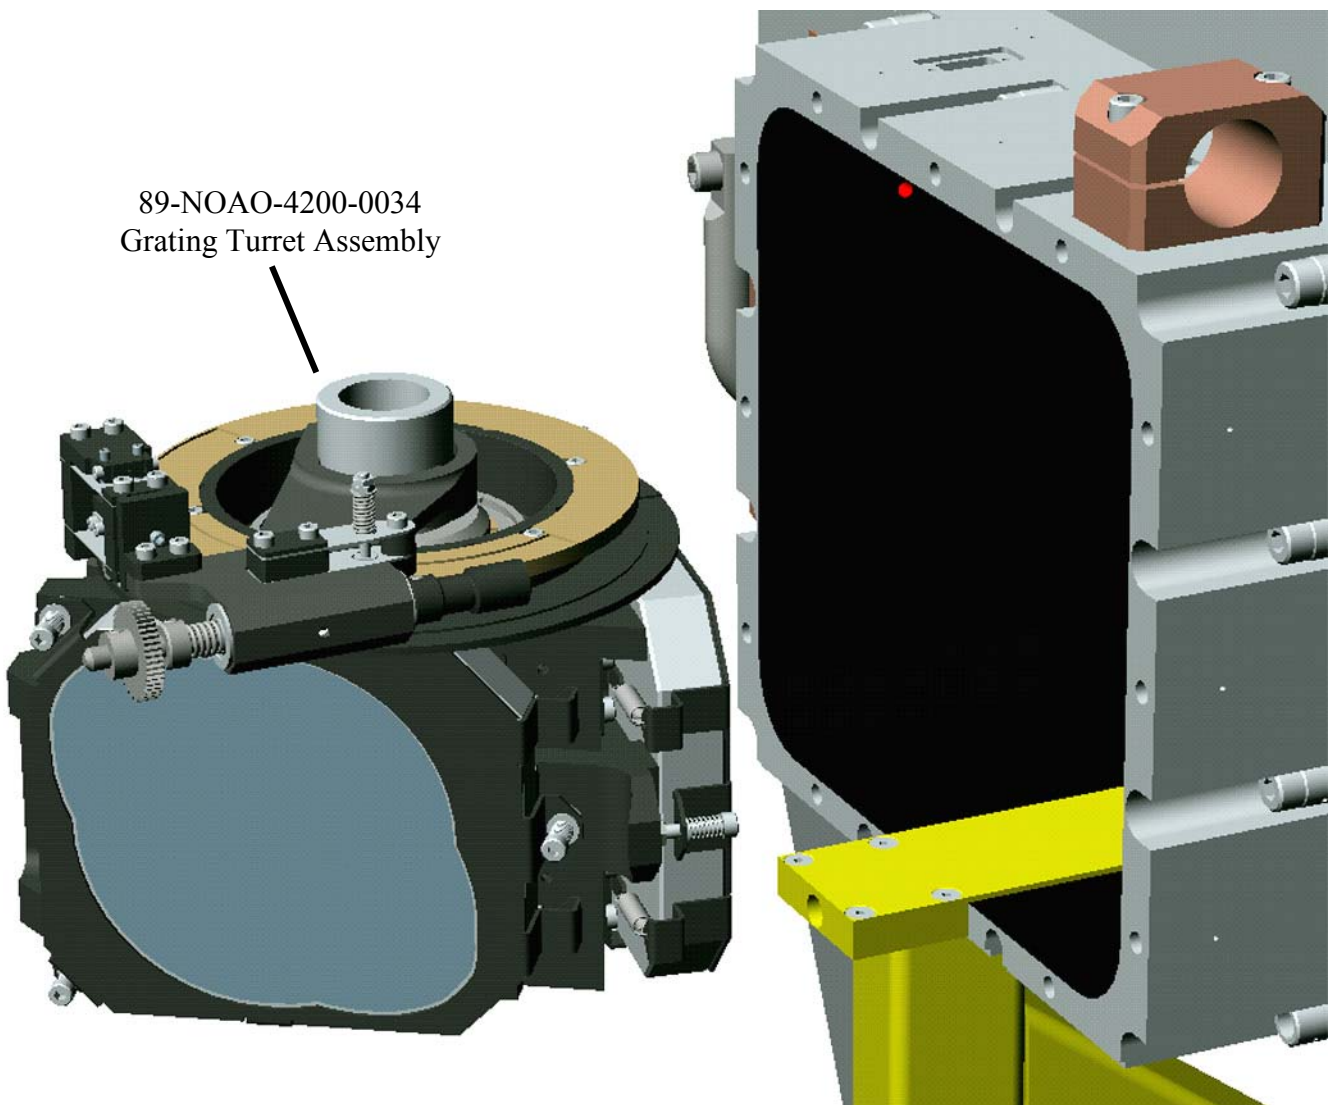

Figure 8.5.8.3. Remove 89-NOAO-4200-0034 Grating Turret Assembly.
- F. Carefully slide Grating Turret out of Main Optical Bench holding Grating Turret by the axle. See Figure 8.5.8.3.
- A. When re-installing Grating Turret Assembly into Main Optical Bench, ensure that shoulder on Prism Turret Axle seats on Grating Turret Mount Block. See Figure 8.5.8.4.
Figure 8.5.8.4. At installation, ensure that shoulder on Grating Turret Axle seats against Grating Turret Mount Block. Use 89-NOAO-4202-1123 Grating Drive Shaft Setup Tool to properly align Grating Turret Drive shaft with 89-NOAO-4200-0100 3:1 Motor Drive Assembly. Ensure that Drive Shaft operates freely.